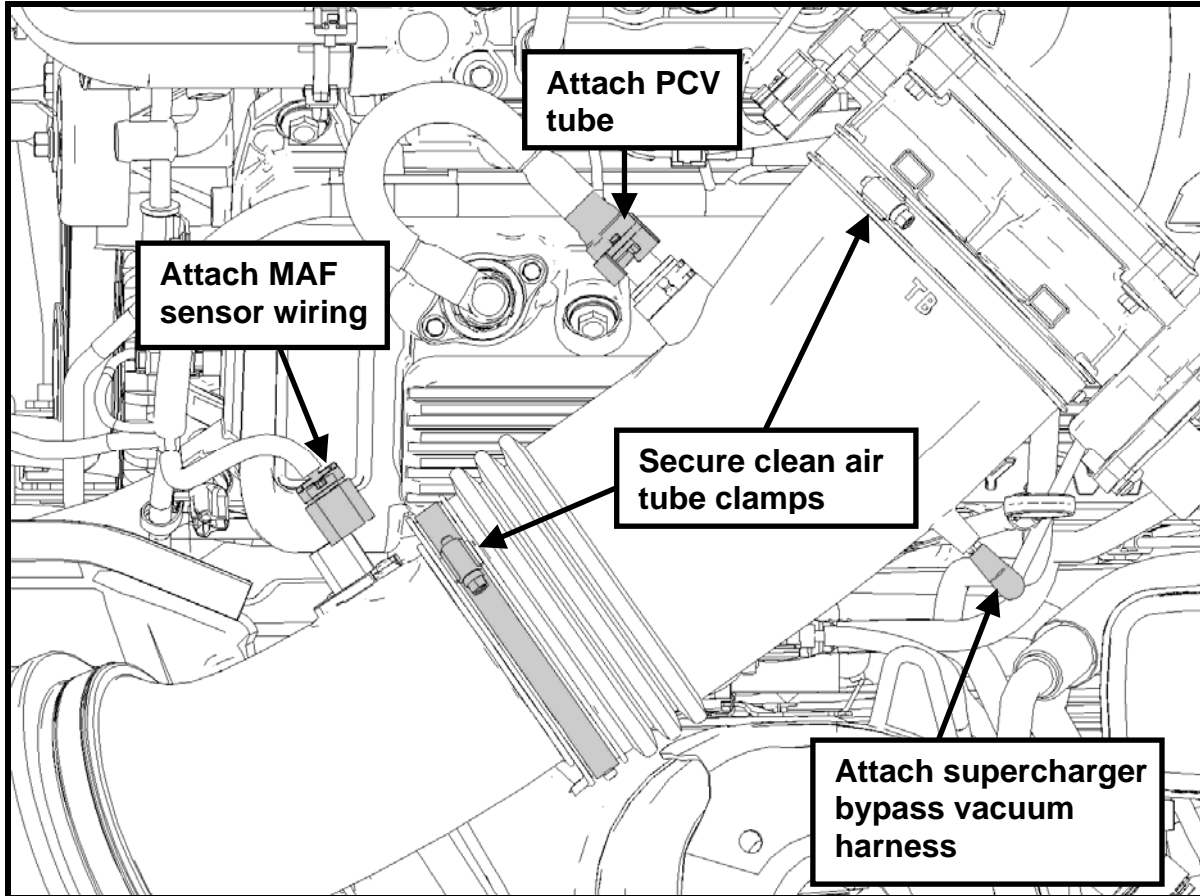

Fig. 36
**STEP 20:** Install the stock rubber clean air tube onto the new clean air tube/airbox assembly. Tighten both ends using worm drive clamps and torque to 3 Nm (26 lb in) (See Fig. 36).
**STEP 21:** Re-install the PCV line and vacuum harness onto the clean air tube. Re-install the MAF electrical connector onto the MAF sensor (See Fig. 36).